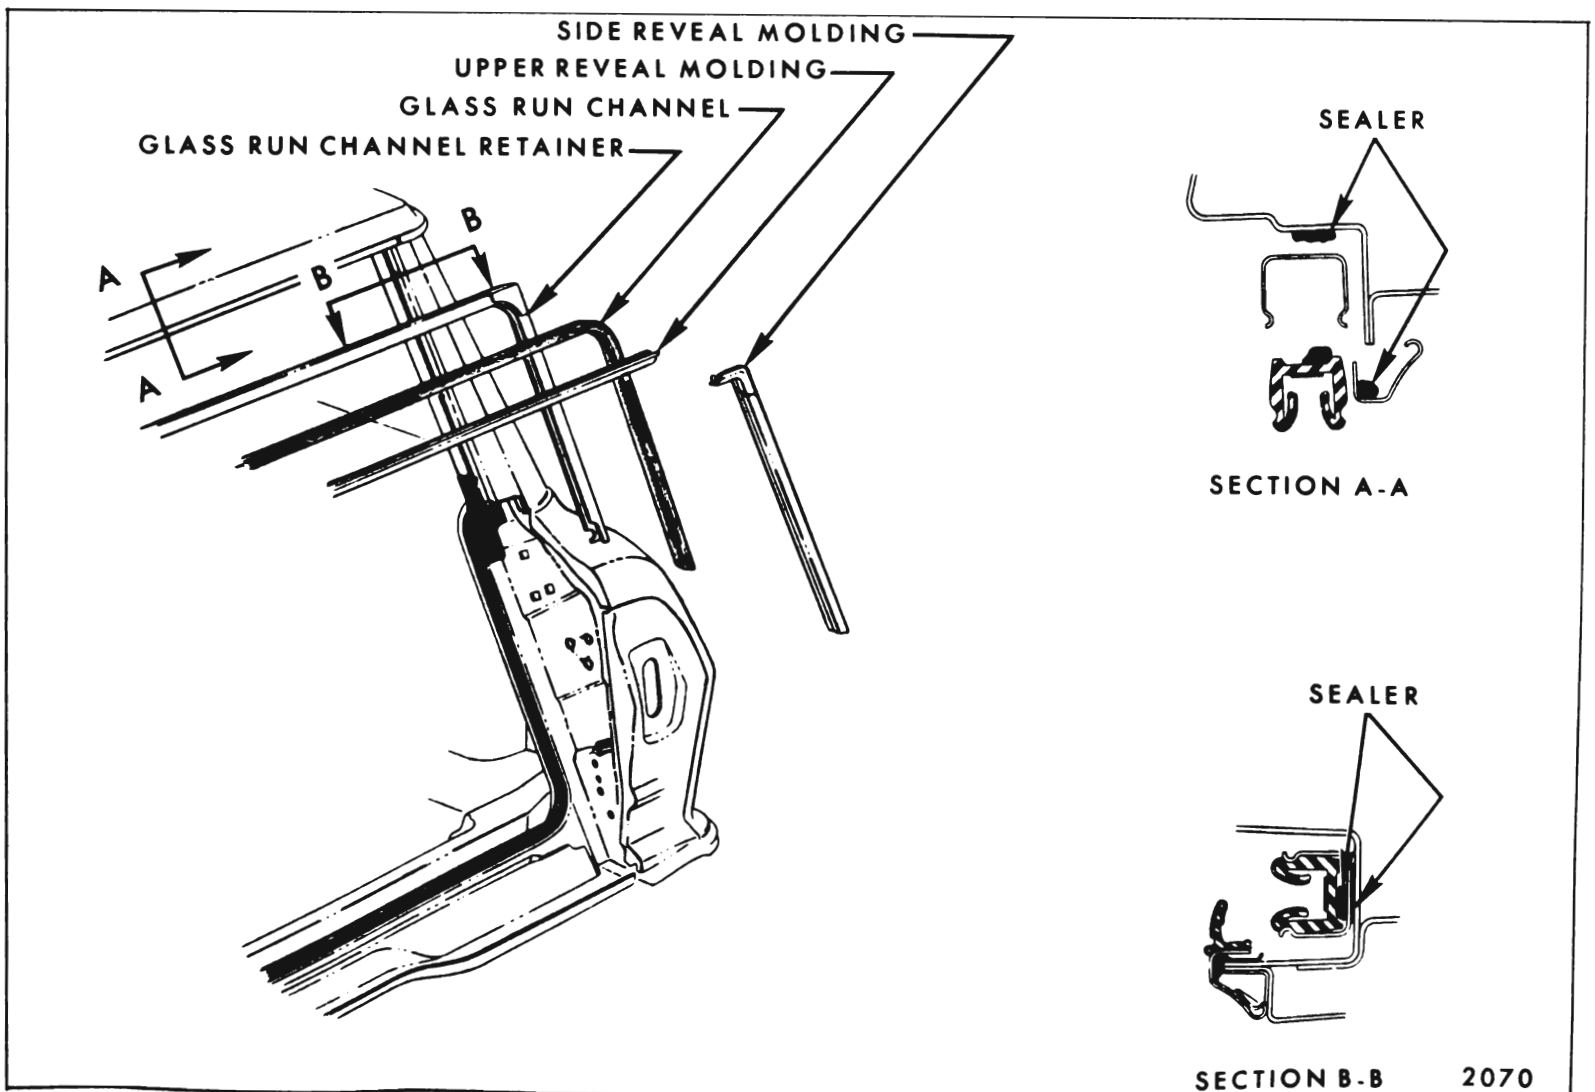

Fig. 9-51—Tail Gate Opening Sealing - "X" Body Styles
4. Prior to installation of either run channel or retainer, seal contact areas with medium bodied sealer as depicted in Sections "A-A" and "B-B" in Figure 9-51.